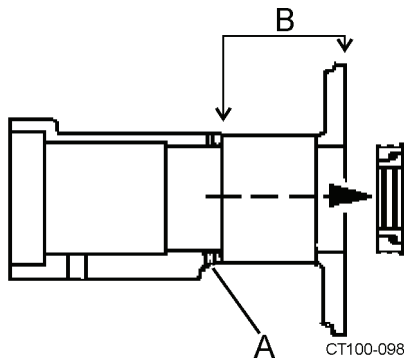

Figure 50 - Remove Set Screws
1. Using a 1/8" hex wrench, loosen the set screws (Figure 50, item A).
2. Remove the impeller end of the bearing housing. (Figure 50, item B).
3. Remove the outer seal ring assemblies (the inner seal ring and o-rings). See Figure 50 and Figure 51.